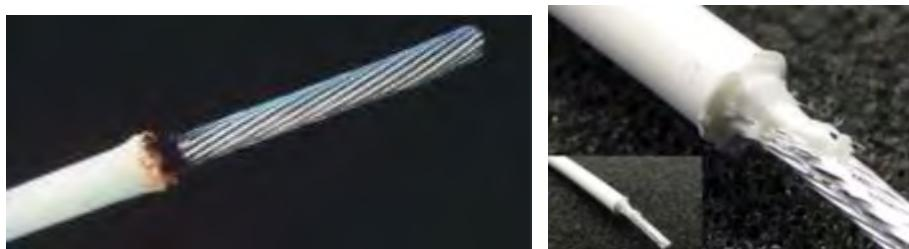

Figure 186
c. If thermal stripper was used, ensure the jacket is not burned or melted into the wire strands as shown in Figure 186.